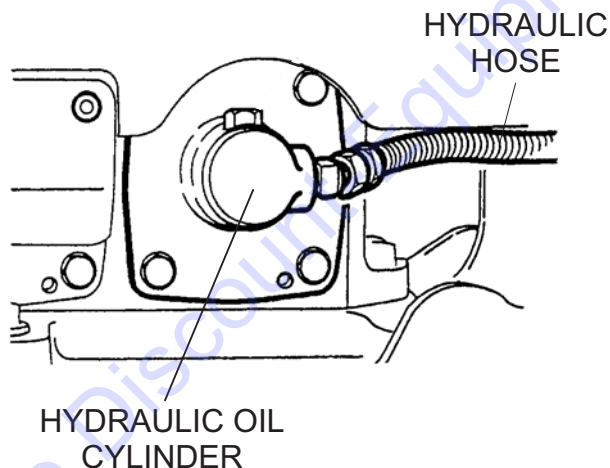

Figure 30. Hydraulic Oil Cylinder
1. Disconnect the hydraulic hose connected to the hydraulic oil cylinder (Figure 30).